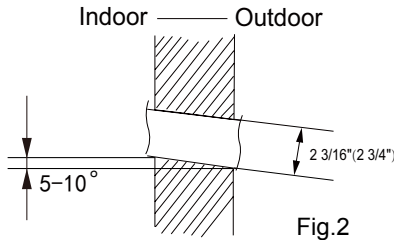

Fig.2
(2) Open a piping hole with the diameter of 2 3/16" (2 3/4") on the selected outlet pipe position. In order to drain smoothly, slant the piping hole on the wall slightly downward to the outdoor side with the gradient of 5-10°. (As show in Fig.2)